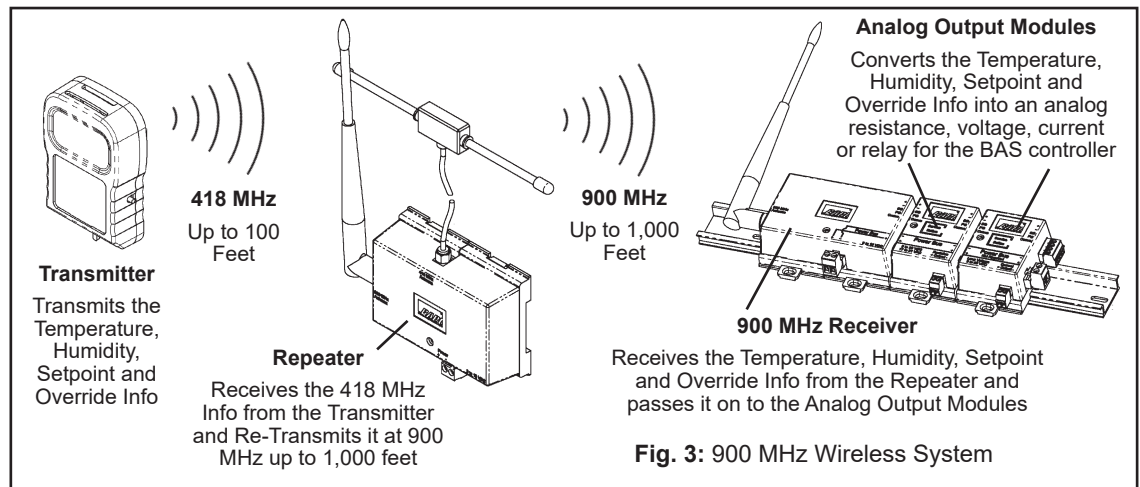
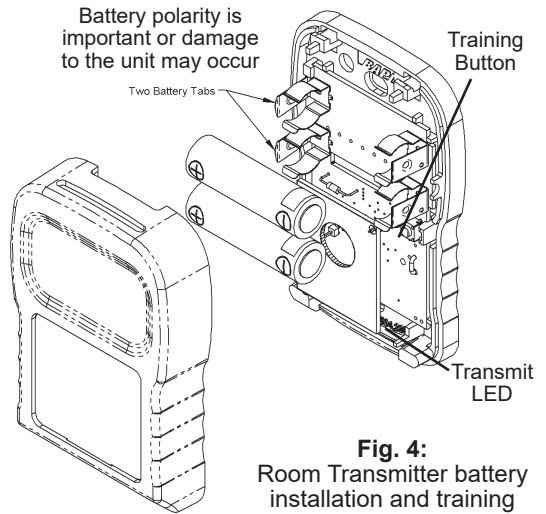
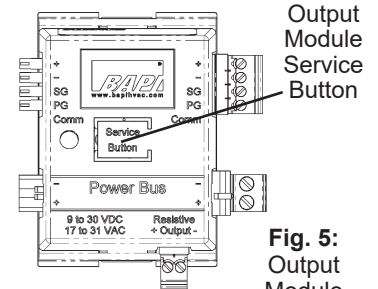

Fig. 3: 900 MHz Wireless System
Fig. 4: Room Transmitter battery installation and training
Fig. 5: Output Module
3. Remove the cover of the room transmitter and remove the battery tabs or install the batteries, observing polarity as shown in Fig 3. Or open the cover of the BAPI-Box on non-room transmitters and remove the battery tabs or install the batteries as shown in Fig 4. The "transmit LED" will flash about once every 20 seconds, indicating a transmission. (The flash is very quick.)
4. Press and hold down the "Service Button" on the top of the output module (Fig 5) that you wish to train. Then, press and release the "training button" (see Fig 3 & Fig 4) on the transmitter. When the output module receives the "training transmission" from the transmitter, the output module's red LED will light steady. Release the "Service Button" on the output module and the red LED will go out. The transmitter and output module are now trained to each other. During normal operation, the output module's LED will flash about once every 20 seconds indicating data reception from the transmitter trained to it.
5. Install provided batteries or pull battery tabs and follow polarity as shown in figure 3 or damage may occur. The unit will work on just one battery however the battery life will be cut in half.